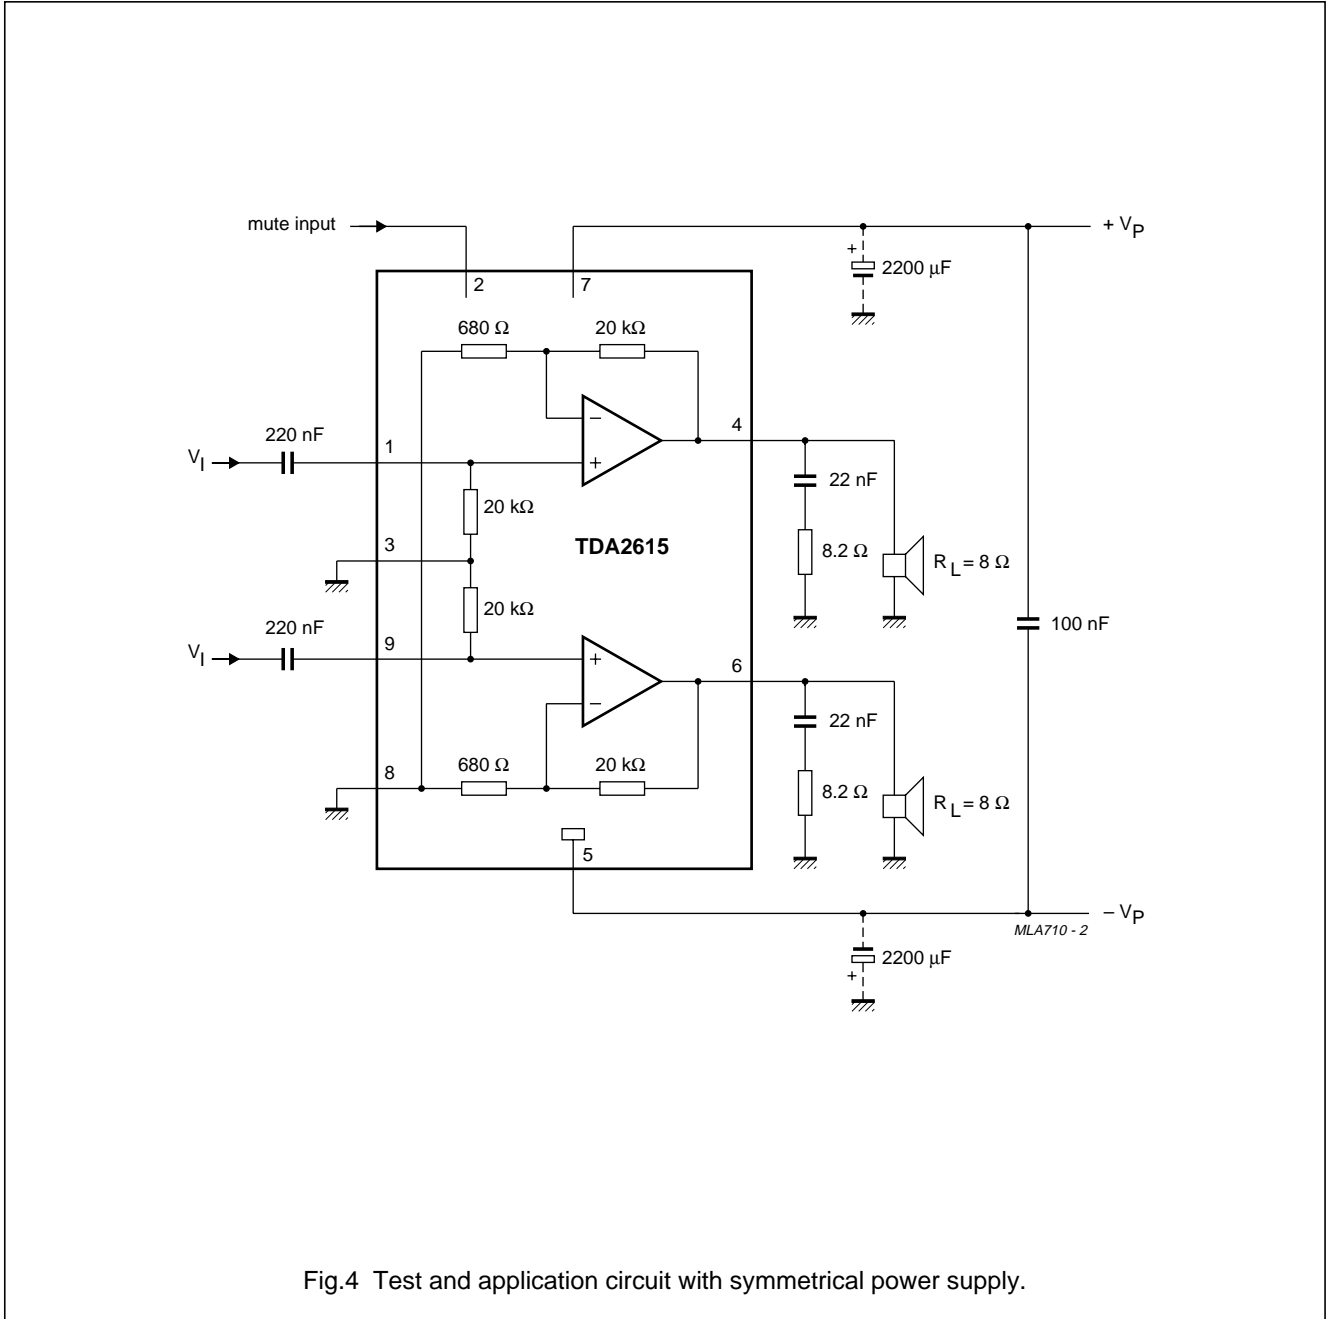

Fig.4 Test and application circuit with symmetrical power supply.
- $V_P = \pm 12 \text{ V}$; $R_L = 8 \Omega$; $T_{\text{amb}} = 25 \text{ }^\circ\text{C}$; $f_i = 1 \text{ kHz}$; symmetrical power supply $I_{\text{MUTE}} = < 30 \mu\text{A}$ (see Fig.4).
- $\pm V_P = 4 \text{ V}$; $R_L = 8 \Omega$; $T_{\text{amb}} = 25 \text{ }^\circ\text{C}$; $f_i = 1 \text{ kHz}$; symmetrical power supply (see Fig.4).